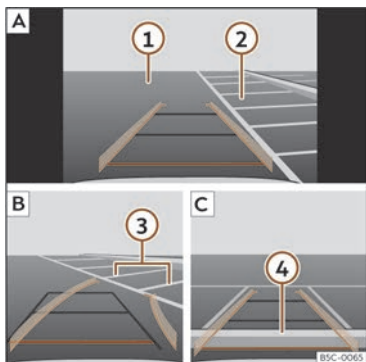

Fig. 155 Display on the infotainment system screen: parking with the reverse assistant.
Key to the >>> **Fig. 155:**
- Stop the vehicle in front of the parking space >>> **Fig. 155** **2** **A**.